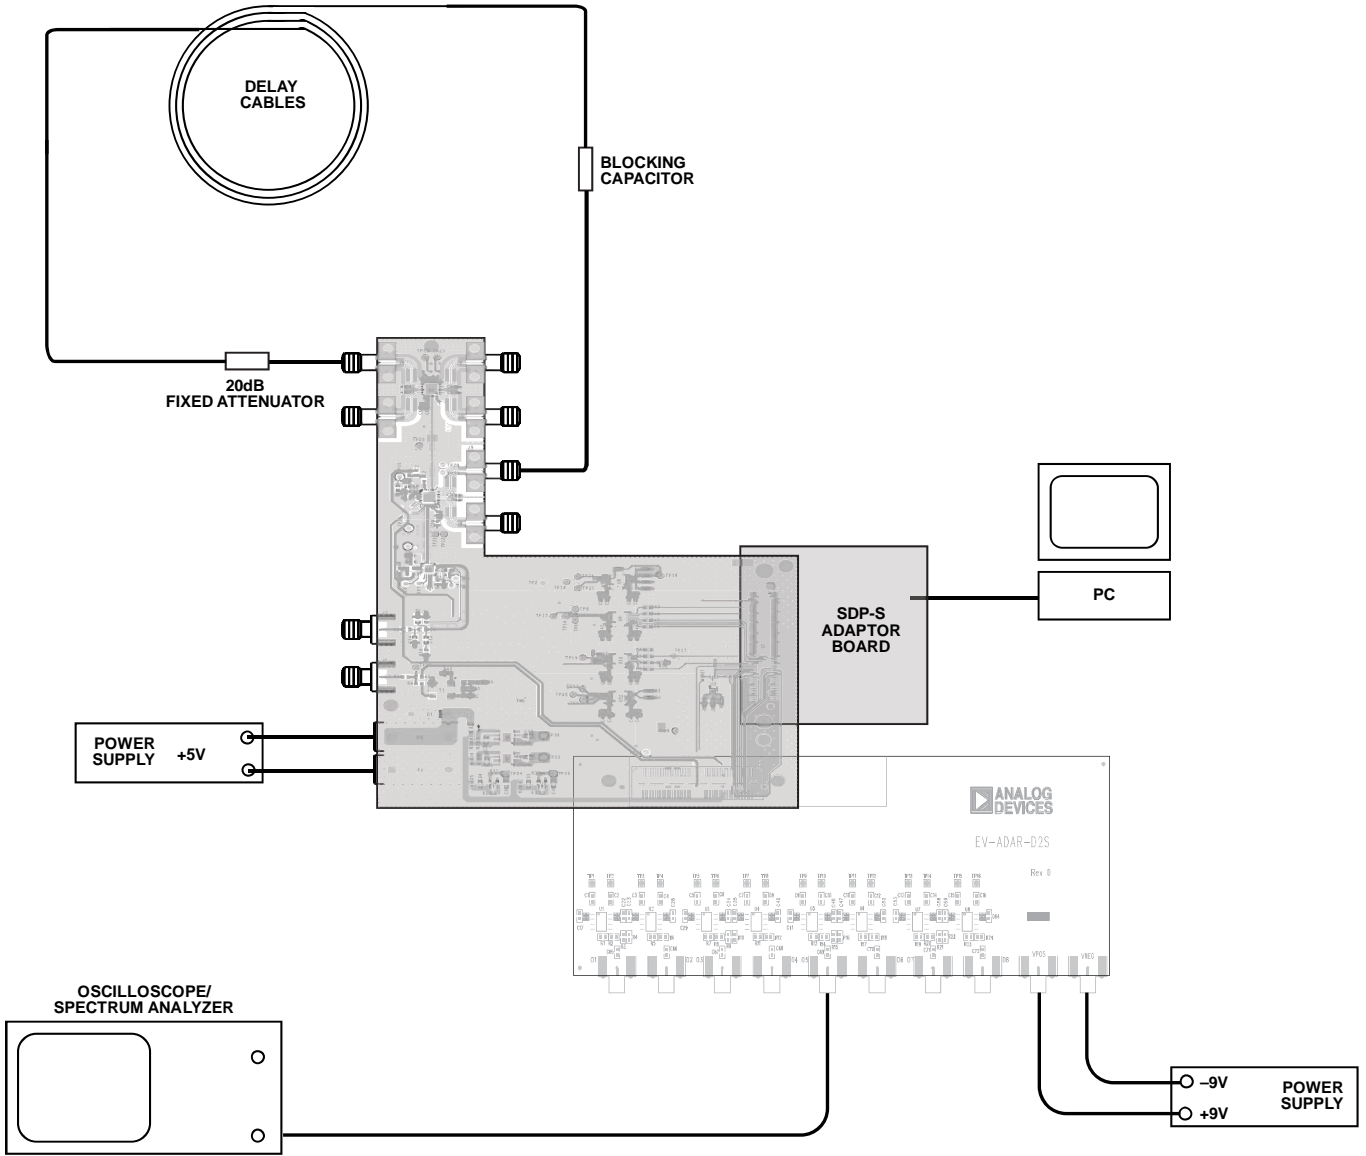

Figure 8. Typical Evaluation Setup with Cables
11. In the **ADF5901 Controls** tab, click **Initialize ADF5901** to power up and calibrate the ADF5901. See Figure 8 and Figure 9 for the typical setups.